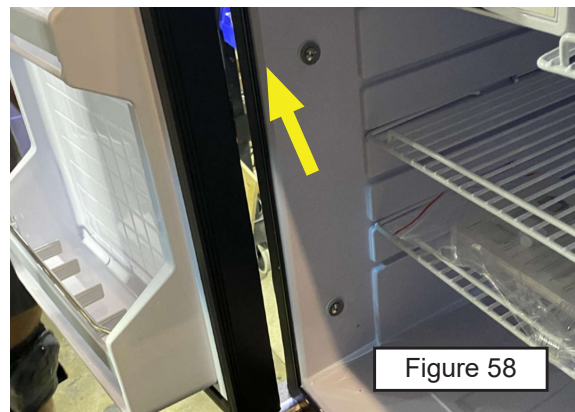

Figure 58
b. Once fridge is aligned, open the fridge door and take the phillips bit and 1/8" allen key to re-install the (4) screws to secure the fridge to the galley. (See Figure 58) (#10-24 x 1" SS barrel nut, 1/4" PVC washer, #10-24 x 1.25" Flat Head Screw and aluminum counter sunk washer) **Note: tighten hardware using a philips head screwdriver from the inside of the fridge, while holding the allen wrench from the outside. Make sure not to overtighten hardware to prevent damaging the fridge or galley.**